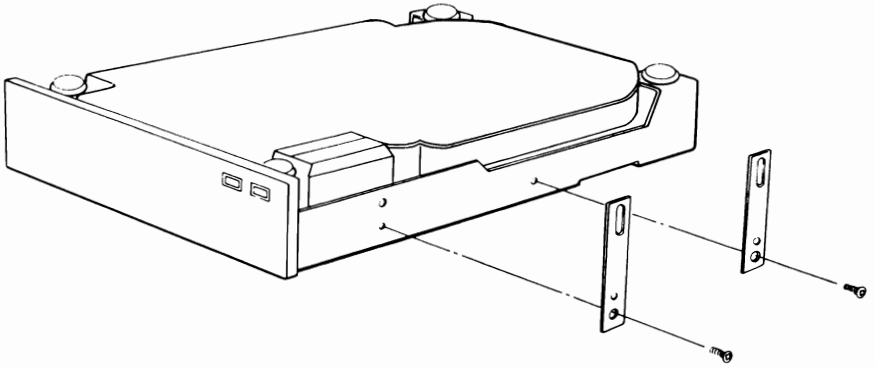

Figure 9: Attaching the Mounting Bars
5. Install the mounting bars onto the disk drive using the flat head "A" screws as shown in Figure 9.